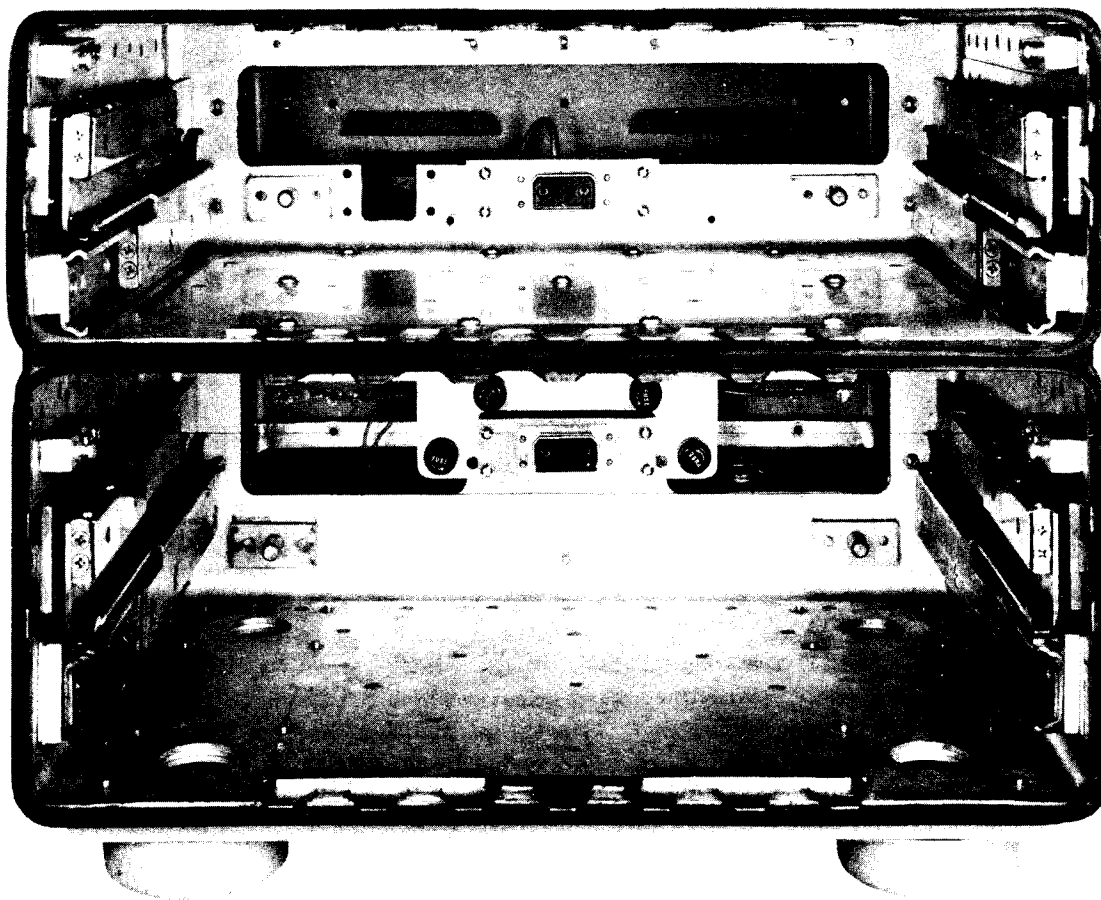

Figure 1-2. CV-216/URR Cabinet, Chassis Assemblies Removed
a. CABINET.—The cabinet is manufactured out of an aluminum alloy and has a gray enamel finish. Figure 1-2 is a photograph of the cabinet with both chassis assemblies removed. The shock mounts are removed when the equipment is mounted in a relay rack and a bottom plate is attached to cover the shock mount holes.